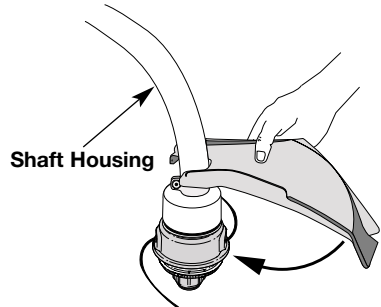

Fig. 7
- Place the cutting attachment shield onto the shaft housing above the clamp assembly, so that the shield is in front of the cutting attachment (Fig. 7).